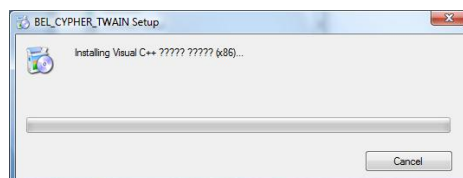

Fig 3 Visual C++ Run time Install screen
- 5) The dialogue such like Fig 3 is displayed. .NET Framework 3.5 SP1 and Visual C++ Run time is installed.